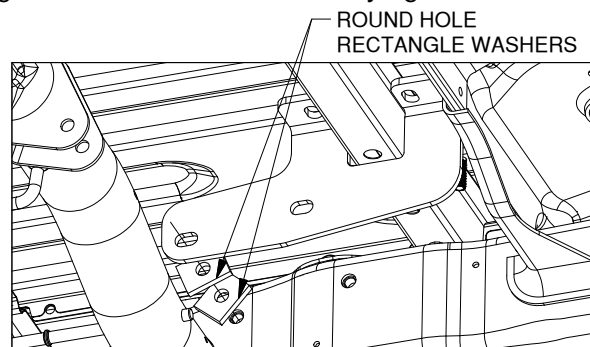

Figure B2: View looking up at passenger side frame.
3. **Install the front brackets.** Locate the two front brackets, four round hole rectangle washers, two M12 x 45mm hex head bolts (longer), two M12 x 35mm hex head bolts (shorter), four 1/2" split lock washers, and four 1/2" flat washers. Due to curvature of the frame the forward hole in each front bracket will need to be supported with two round hole rectangle washers. See Figure B2. Using a 1/2" lock washer and 1/2" flat washer, thread the longer (45mm) M12 hex head bolt into the frame through the forward holes in the brackets and through both round hole rectangle washers. Again, using a 1/2" lock washer and 1/2" flat washer, thread the shorter (35mm) M12 hex head bolt into the frame through the remaining holes. See Figures B3 and B4. Do not fully tighten at this time.